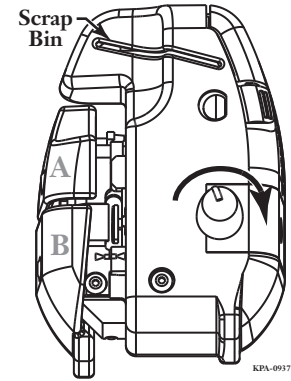

Figure 71 — Cleave the Fiber
Step 5: Slowly turn the knob 360 degrees in either direction (Figure 71).